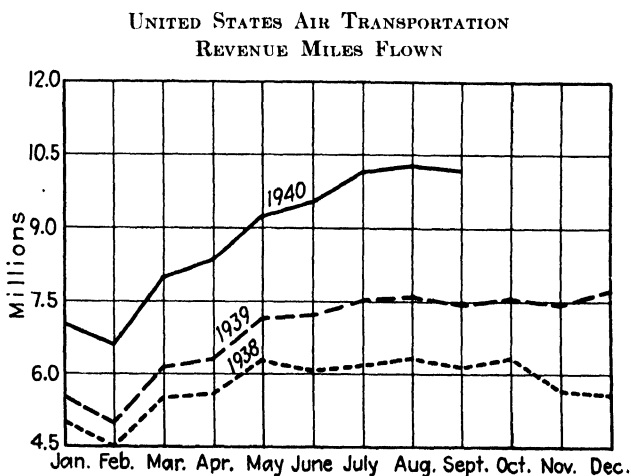

Fig. 309.—(Courtesy of Civil Aeronautics Journal.)
43. The graph shown in Fig. 309 appeared in the Nov. 15, 1940, issue of the *Civil Aeronautics Journal*. Notice how much information is given in this small space.
44. Complete a table of data showing the number of revenue miles flown in 1939 (see Fig. 309).